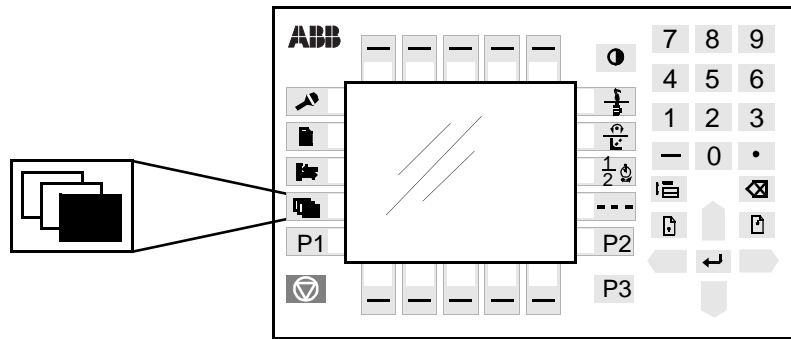

Figure 24 The Misc. window key from which the Service window can be chosen.
1. Press the **Misc.** window key (see Figure 24).